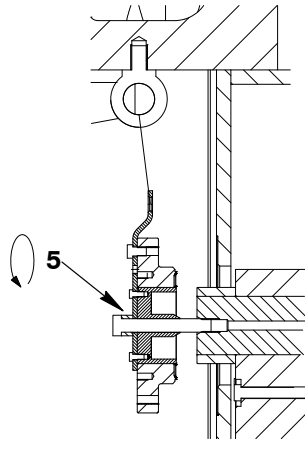

Fig. 5
- 8) Attach the lifting tool (94704) to the manual ratchet. Move the lifting tool in front of the bearing (6, Fig. 5).
- 9) Tighten the screw (4) with your hand.
- 10) Turn the nut (5) against the bearing (6) to push the lifting tool (94704) against the pin (3).
- 11) Put two M20 x 140 mm bolts into the two threads (7) in the bearing (6).
- 12) Tighten equally the two M20 x 140 mm bolts to push out the bearing (6).
**Note:** The bearing (6) will move on to the lifting tool (94704), see Step A.
- 13) Tighten the screw (2) to hold the bearing (6).
- 14) Loosen the nut (5). Operate the manual ratchet to hold the weight of the bearing (6), see Step B.
- 15) Carefully remove the screw (4).
- 16) Operate the manual ratchet to move the bearing (6) to an applicable area.
- 17) Remove the two taper pins (8).
**Note: Do not install the two taper pins (8, Fig. 5).**